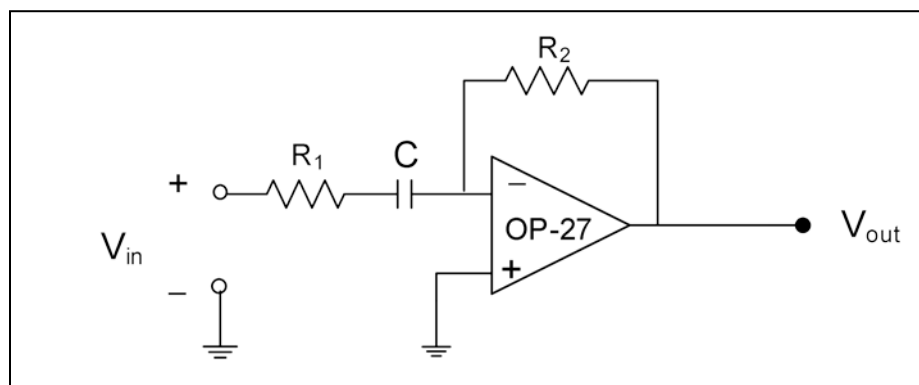

Figure 1. First order op-amp high pass filter.
- Derive the differential equation for the output voltage of the circuit shown in Figure 1. Assume that the op-amp is ideal. Also find the initial conditions, assuming zero initial charge on the capacitor at time 0–.
- Design a high pass filter based on the circuit of Figure 1 with an input resistance of 10 K Ω , a high frequency gain of 6 dB, and a –3 dB (cutoff) frequency of approximately 10 KHz. Choose realistic resistor and capacitor values; you will be implementing your design in the lab.
1. Differential equation relating v_{out} and v_{in} for circuit of Figure 1. (3 pts)